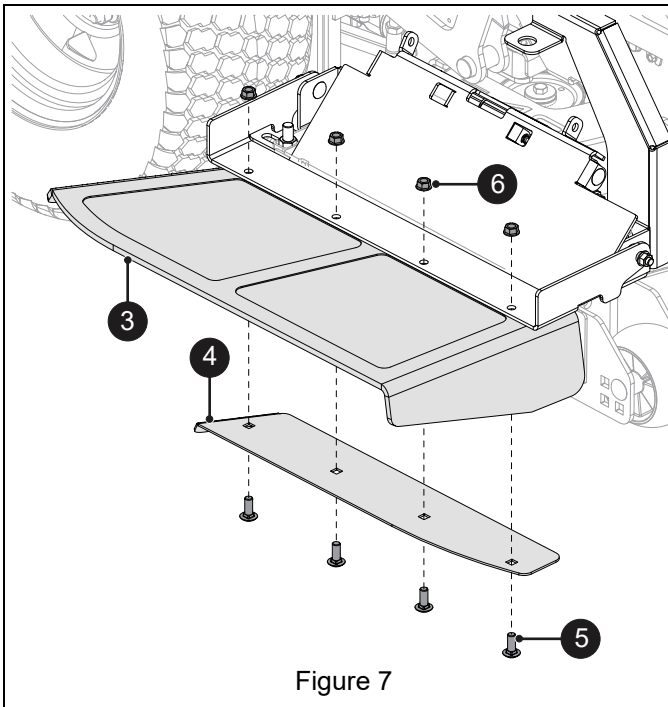

Figure 7
7. Secure discharge chute (item 3) and chute clamp plate (item 4) to mounting bracket using four 3/8" x 1" round head square short neck bolts (item 5) and four 3/8" center locking flange nuts (item 6). See Figure 7.